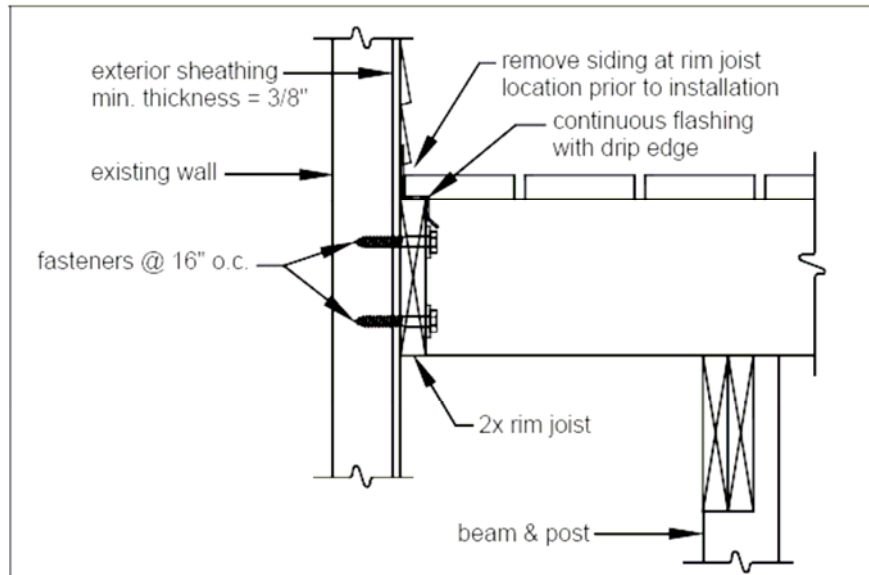

FIGURE 15: ATTACHMENT TO HOUSE LATERAL SUPPORT
2. Attachment To House: lateral support is provided by the attachment of the deck rim joist to the existing house as shown in FIGURE 15. The existing exterior wall must have sheathing consisting of structural wood panels with a minimum thickness of $\frac{3}{8}$ ", and the fasteners shall attach to an existing band board or wall stud. The deck rim joist may also attach to a masonry or concrete wall, but not to a brick veneer. YOU MUST VERIFY THIS CONDITION IN THE FIELD PRIOR TO UTILIZING THIS METHOD. Fasteners shall be 16" on center and must penetrate existing wall studs. See also the provisions noted on sheet 6. Flashing over the rim joist is required and must be installed in accordance with the flashing provisions noted on sheet 4. For rim joist size and requirements, see sheet 10.